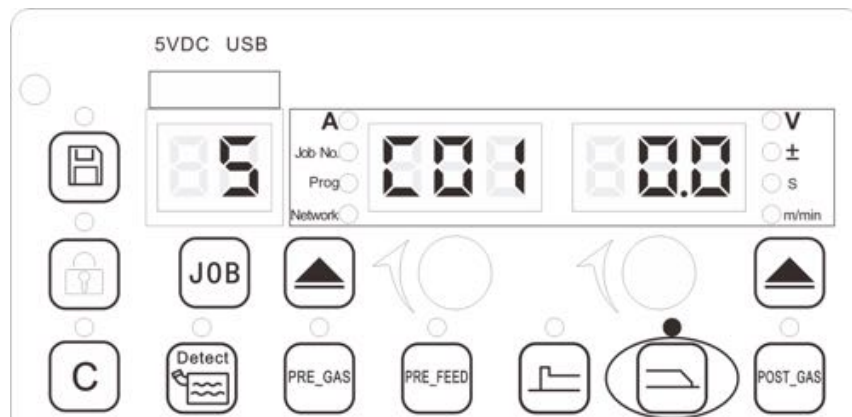

Figure 3-22 Setting view of crater parameters
1. Press the “crater” button to activate the starting arc function and wait for the indicator turns on, the view for crater is shown in Figure 3-22.